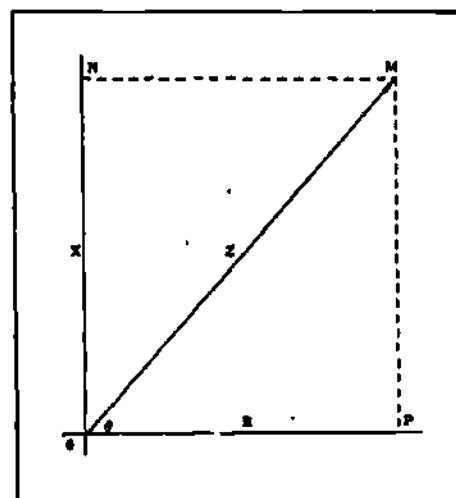

Figure 24. Components of a Vector
d. **Polar or Rectangular Form of a Vector** - You can describe a vector in POLAR form or in RECTANGULAR form. The polar form shows the magnitude of the vector and the angle which it makes with the horizontal axis. For example,  $10/30^\circ$  describes a vector 10 units in length and at an angle of  $30^\circ$ . In the rectangular form, the vector is resolved into two components which are the projections of the vector on the horizontal and vertical axis and have as their origin the initial point of the vector as in Figure 24. In this work, you can designate the horizontal component as the real component and the vertical component as the IMAGINARY or  $j$  component. From the relations in the definitions of sine and cosine, ( $\sin \theta = x/z$  and  $\cos \theta = r/z$ ) you can see that  $r = z \cos \theta$  and  $x = z \sin \theta$ . Thus,  $z/\theta = z \cos \theta + jz \sin \theta$ . Hence the vector  $10/30^\circ = 8.66 + j5$ .